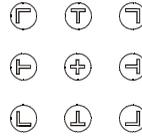

Figure 28: Preset Position Control Keys
- Using the preset position control keys (see Figure 28) on the infra-red remote control transmitter (see Figure 16), which instantly move the position of the zoom to up to nine preset fixed locations1